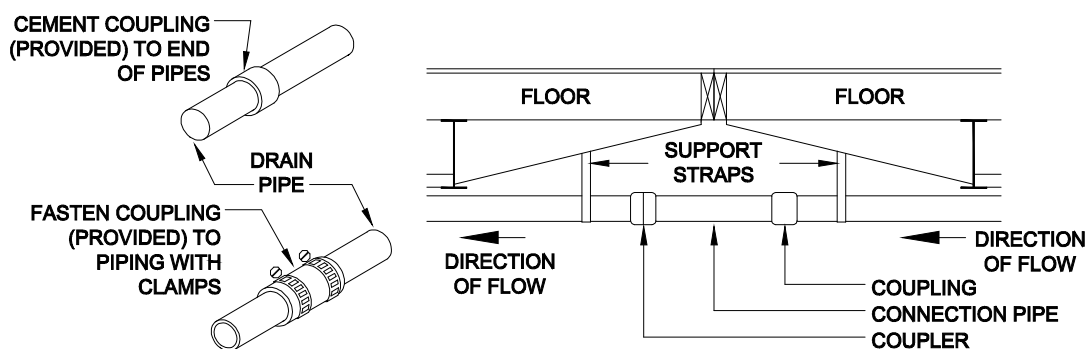

Figure 46. Drain crossover connection
2. **Assemble pipes.** Using the drain schematic drawing provided with the home, begin assembling the DWV system starting at the location farthest from the sewer/septic connection and working towards the outlet, fastening the pipe with cement or adjustable screw-clamp connectors, if provided (**Figure 46**). As the system is assembled, support the piping with temporary blocking. Unless otherwise noted on the schematic diagram, provide a minimum 1/4 inch per foot slope towards the sewer/septic using a plumber's level. Where a slope of 1/4 inch per foot cannot be maintained, use a minimum slope of 1/8 inch per foot and install of a full-size clean-out at the uppermost point of the run (**Figure 47**).